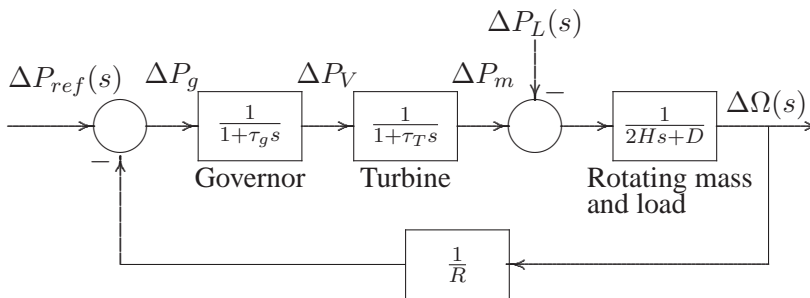
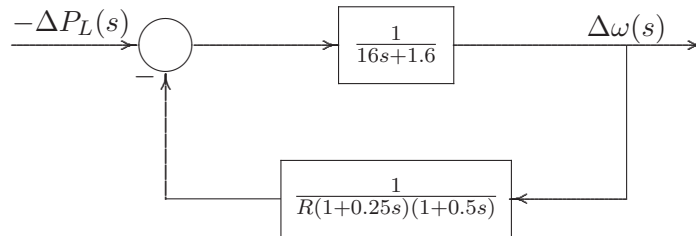

FIGURE 97
FIGURE 98
12.4. An isolated power station has the LFC system as shown in Figure 97 with the following parameters
Redrawing the block diagram of Figure 97 with the load change $-\Delta P_L(s)$ as the input and the frequency deviation $\Delta\Omega(s)$ as the output and substituting the system parameters results in the block diagram shown in Figure 98. The open-loop transfer function is
The closed-loop transfer function of the system shown in Figure 98 is